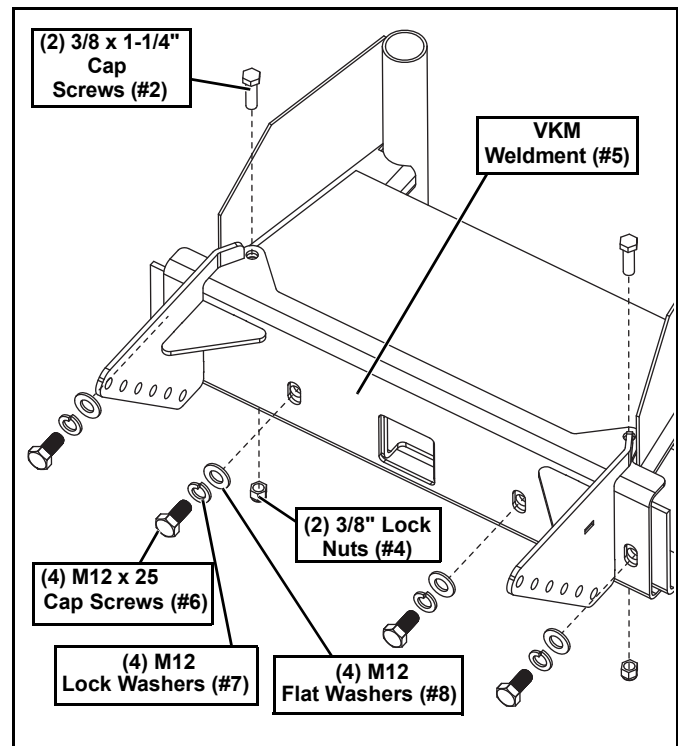

Figure 2
4. Place the VMK Weldment (#5) tabs on top of the cover and push up against the bumper. Place (2) 3/8" x 1-1/4" Cap Screws (#2) thru the top holes of the VMK Weldment (#5) into the top cover and frame. Secure with (2) 3/8" Lock Nuts (#4). (See Figure 2.)
(See Figure 2.)